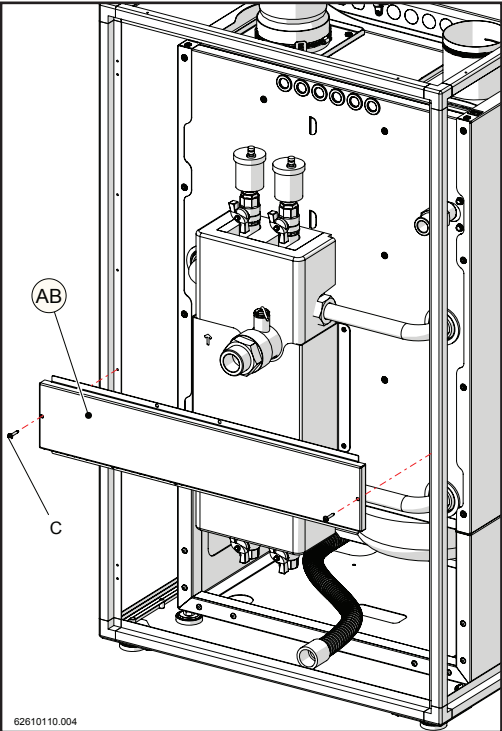

Figure 15-16
- 8.- Attach the cover (AB), using screws "C", to the framework of the external cover, as shown in figure 15-16.